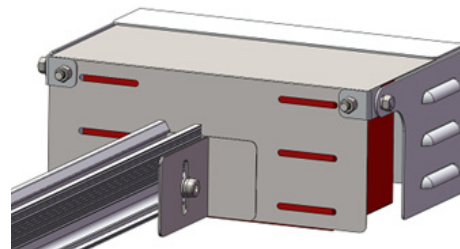

Figure 8
3.7 Install the Isolator Bracket at the end of rail as shown in Figure 8.